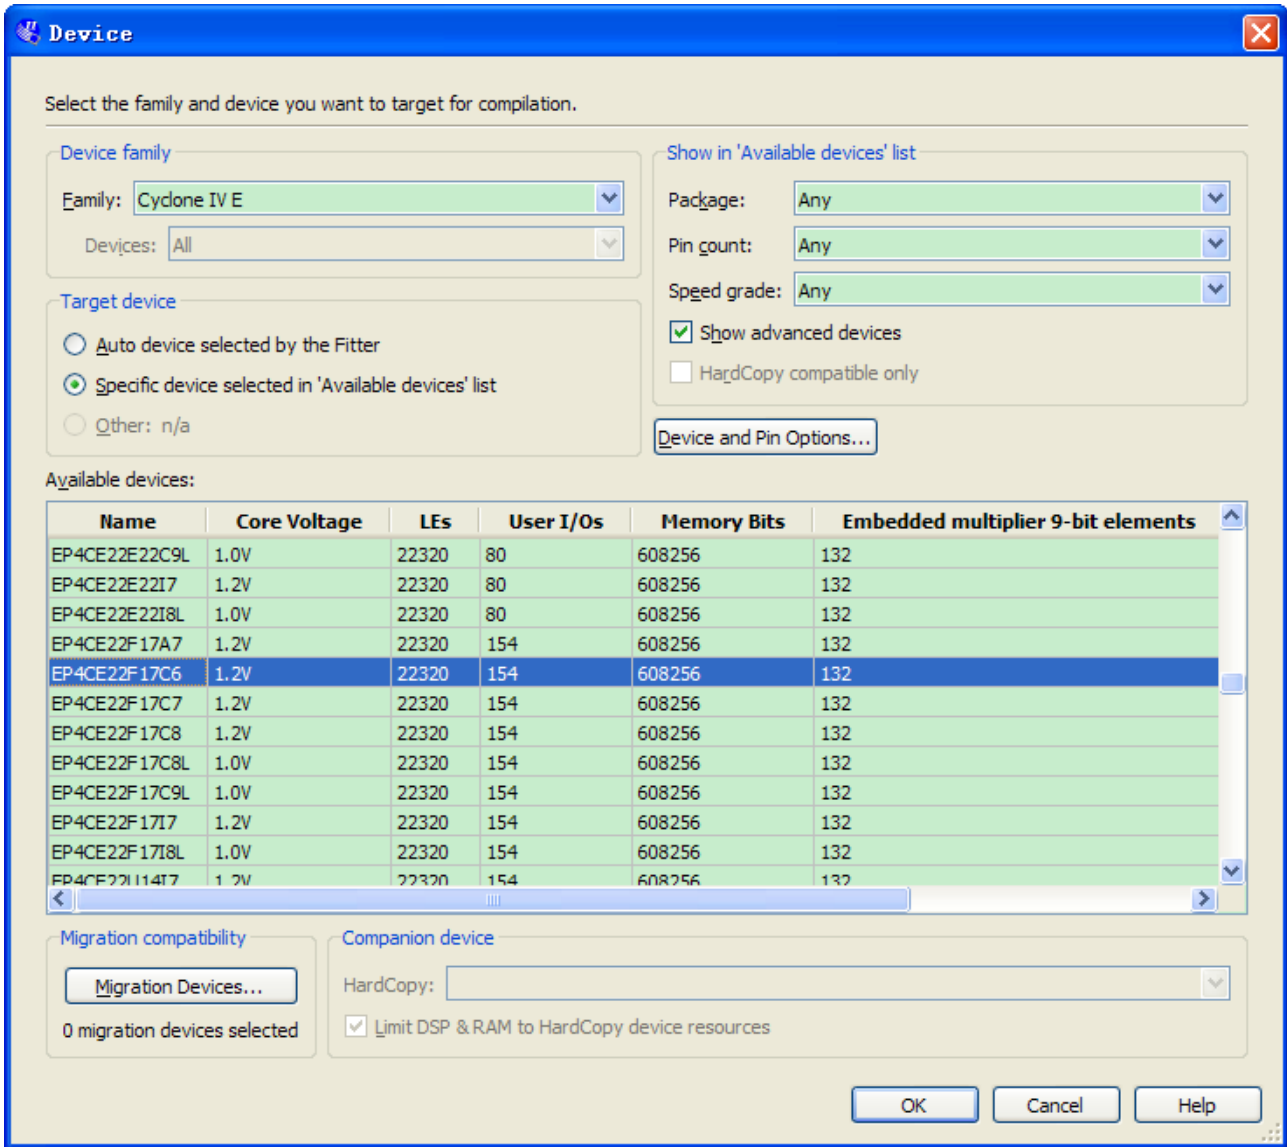

Figure 6-49 Device and Options
3. If other LEDs emit faintness light, Choose Assignments > Device. Click Device and Options. See Figure 6-49.